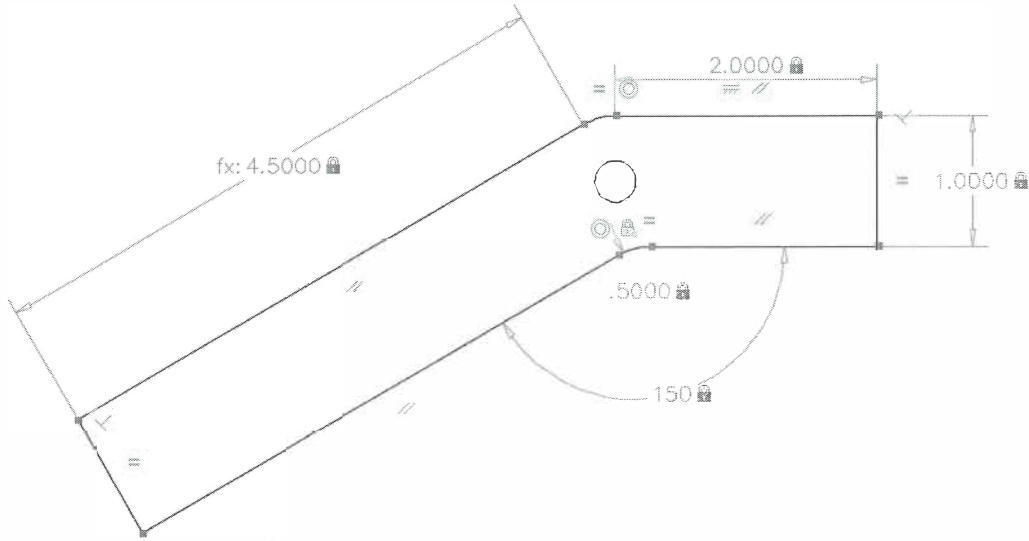

Figure 4-41
- The dimensional constraints now only display the value and the tangent constraint glyphs are no longer displayed, as shown in Figure 4-41.